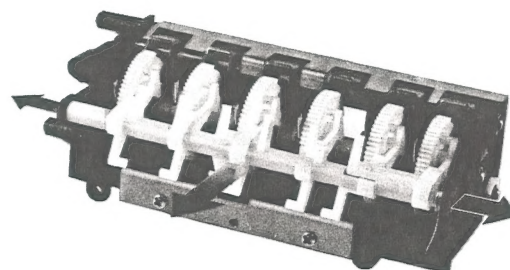

Fig. 13
- 1) Stretch out the mechanism frame a to the left and right, remove the axis (gear stopper), and replace it. (See figure 13)